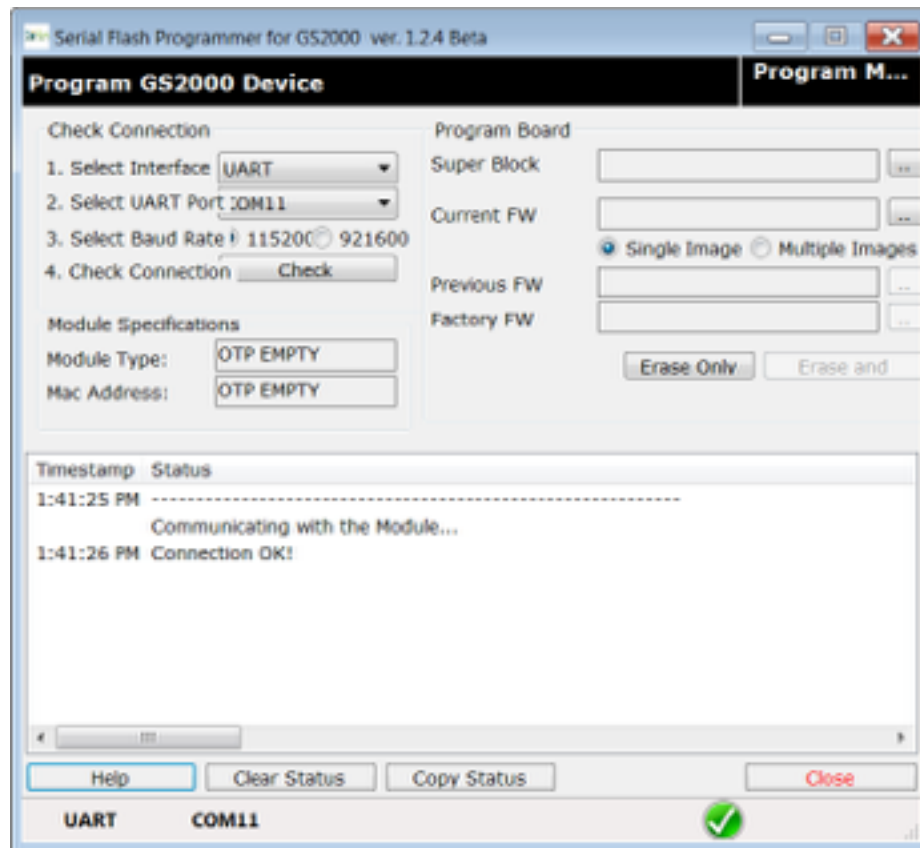

Figure 4 Programming Utility Successful COMs
6. Press the <Check> button to confirm connectivity, Figure 4 shows a proper connection to the module.